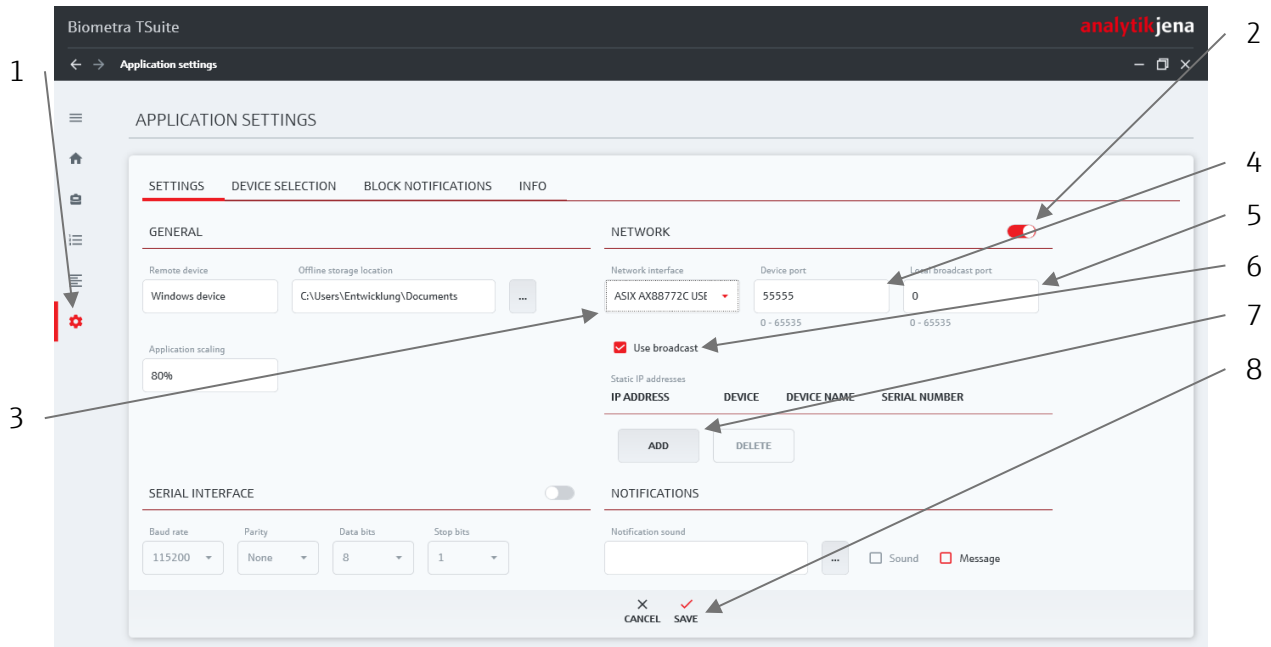

Fig. 13 Biometra TSuite settings for network interface
- Follow the steps described below Fig. 13.